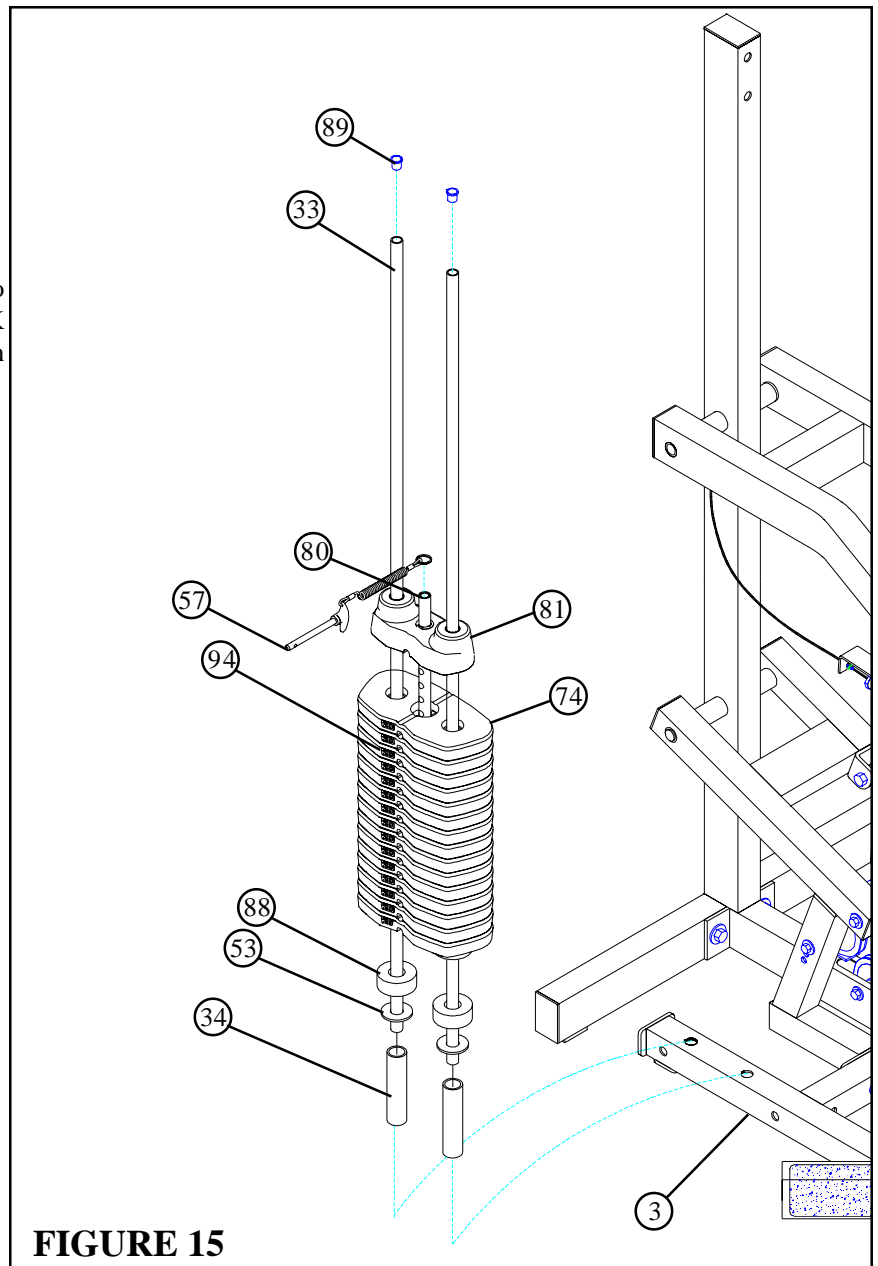

FIGURE 15
- Insert two GUIDE RODS (33) into the WEIGHT STACK BASE (3) as shown on FIGURE 15. **(NOTE: Lubricate GUIDE RODS (33) with silicon or teflon spray available at most hardware stores.)**
- Slide two WEIGHT STACK SPACERS (34), two 3/4" WASHERS (53), and two WEIGHT STACK CUSHIONS (88) - **IN THAT ORDER** - down over the GUIDE RODS (33).
- Using **EXTREME CARE** slide all fifteen WEIGHT PLATES (74) down over the GUIDE RODS (33) on to the WEIGHT STACK CUSHIONS (88). Make sure that the keyholes of the WEIGHT PLATES (74) are all facing the right way.
- Slide the head plate assembly down over the GUIDE RODS (33) onto the weight stack.
- Insert two CAP PLUGS (89) into the top ends of the GUIDERODS (33).
- Attach the WEIGHT STACK LABELS (94) to the weight stack. **(NOTE: LABELS should start with the Headplate)** Also insert the WEIGHT STACK PIN (57) over the WEIGHT PLATE SHAFT (80) as shown.